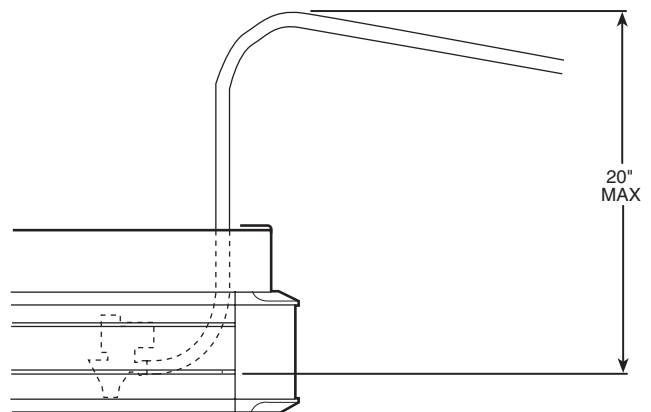

Fig. 5 — Condensate Drain
7. Attach a 1/2-in. ID flexible plastic condensate discharge hose (field-supplied) condensate pump assembly. Clamp hose to pump with hose clamp (field-supplied), if required. Route hose through piping connection access area. Provide a proper pitch from the hose to an external drain to allow for adequate drainage. See Fig. 5.